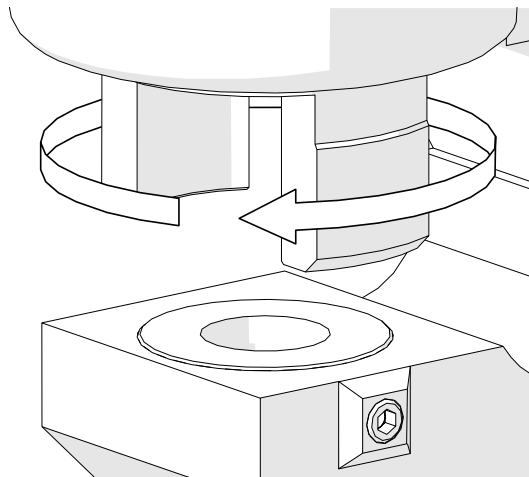

**Fig. 11.** Dismounting the punch
To dismount the punch, insert the wrench into the hole (1, Fig. 11), unscrew the nut by rotating it in direction 2, and remove the nut joined with the punch (3).
Set the power ON/OFF switch to position 'O', dismount the punch as shown in Fig. 11, and unscrew the restrainer by rotating it in the direction shown in Fig. 12. Screw the new restrainer by rotating in the opposite direction.